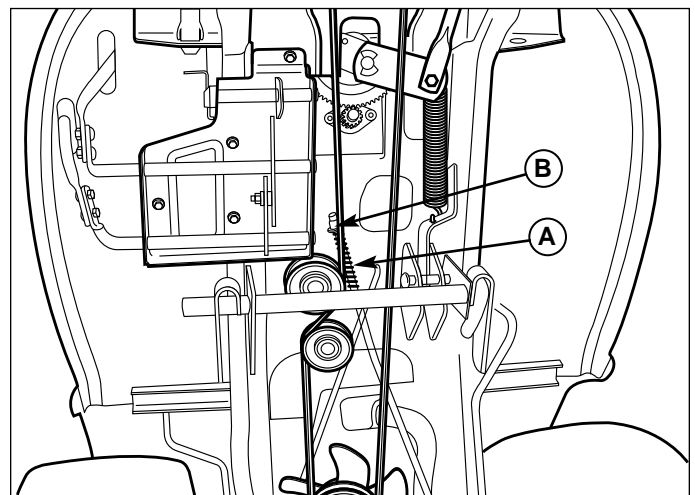

Figure 33. Brake Spring Adjustment
3. Locate the brake spring (A, Figure 33) and adjustment nut (B).
If the spring is not within this range, turn the adjustment nut (B, Figure 33) to compress or release the spring.